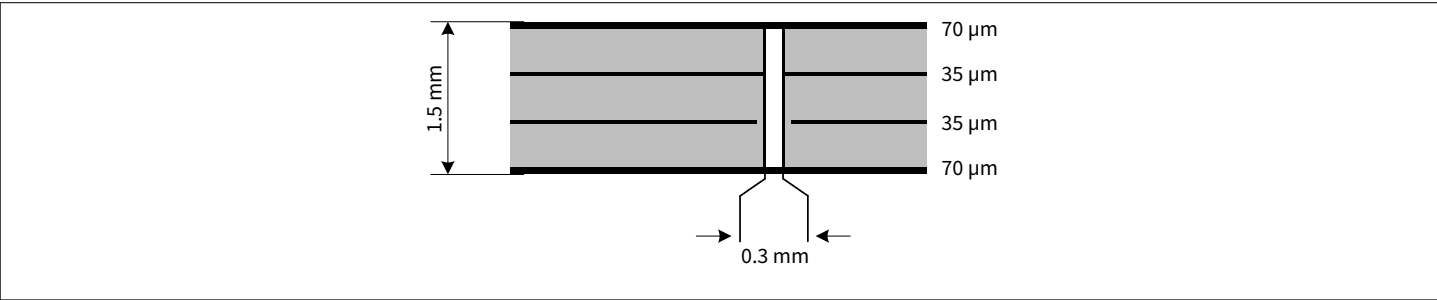

Figure 5 2s2p PCB Cross Section
2) Specified R_{thJA} value is according to JEDEC JESD51-2,-5,-7 at natural convection on FR4 2s2p board with 1 W power dissipation at $T_A = 105^{\circ}\text{C}$; The product (chip + package) was simulated on a 76.4 x 114.3 x 1.5 mm board with 2 inner copper layers (2 x 7 μm Cu, 2 x 35 μm Cu). Where applicable, a thermal via array under the exposed pad contacts the first inner copper layer. Please refer to Figure 5